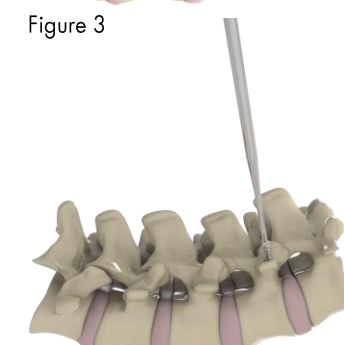

Figure 4
- The appropriate Tap may be used to prepare the pedicle for Screw insertion (Figure 4). The Tap sizes are undersized and correspond to the diameter of the Screw and are laser etched. Taps can be utilized with the Ratcheting In-line Handle (39-CH-0004) or the Ratcheting T-Handle (39-CH-0003). If using the Reform HA Coated Pedicle Screw System, the appropriate tap is used to prepare the pedicle for screw insertion. The tap sizes are undersized and correspond to the diameter of the screw (5.5mm, 6.5mm, 7.5mm and 8.5mm). Tap only to the depth of the tap thread.